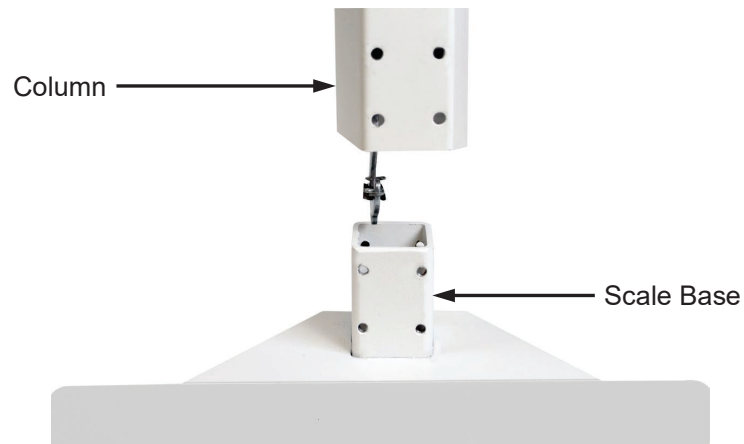

Figure 2. - Insert column onto scale base
3. Insert the column onto the scale base (shown in Figure 2), ensuring that the DETECTO logo on the weight beam faces the scale base.